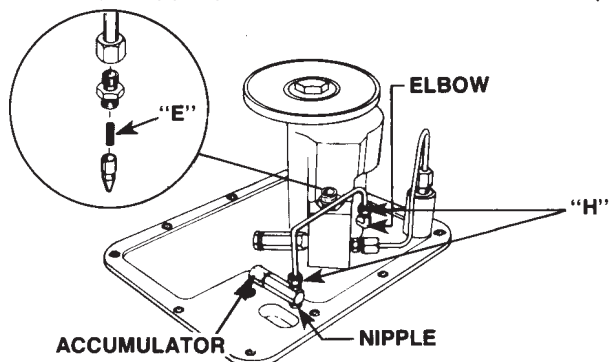

FIGURE 3
6. Replace the existing spring (see Figure 3, Inset item "E") with the supplied Spring, (Part Number 10362. [.047" dia. wire X 3/4" lg.]) Reinstall the connector.
13. Screw the accumulator onto the pipe nipple. Position the accumulator as shown in Figure 3.
14. Assemble the $\frac{3}{16}$ " tube assembly as shown in Figure 3. Tighten the fitting nuts "H" securely but do not over tighten.